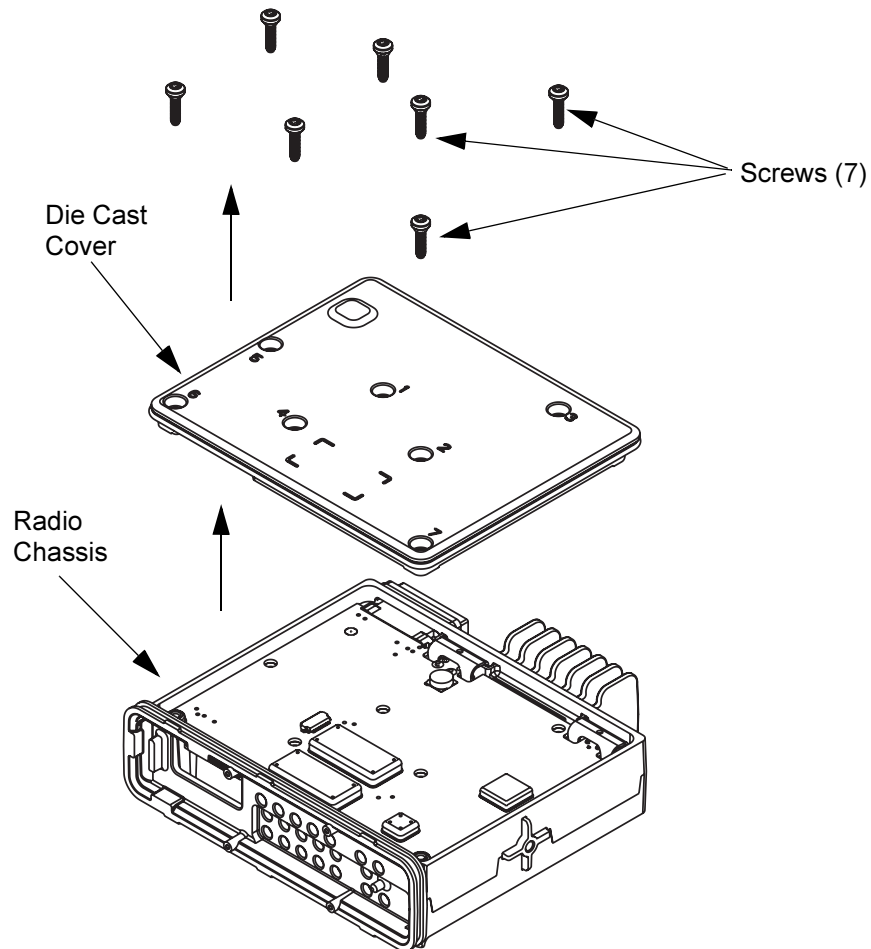

Figure 5-7. Die Cast Cover Removal.
1. Remove the seven screws from the die cast cover using the T20 TORX™ driver as shown in Figure 5-7.